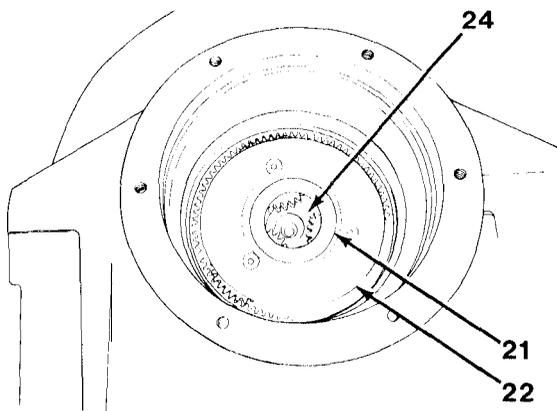
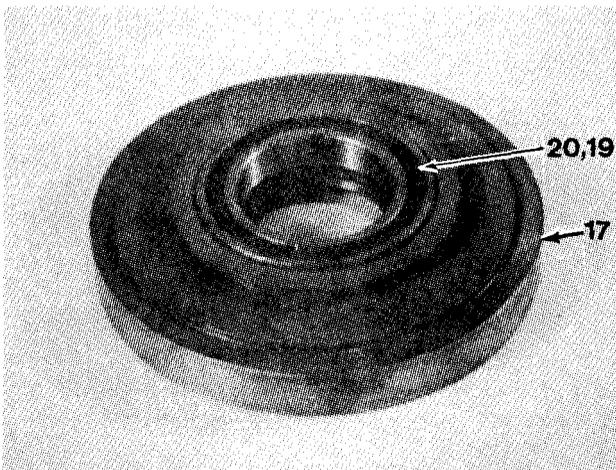

Figure 16-21
Figure 16-22
12. Install primary planet carrier (22), meshing planet gears with ring gear and planet carrier with output gear (34, Figure 16-21).
13. Install thrust ring (21) into primary planet carrier (22).
14. Install bearing (20) and seal (19) in drum closure (17, Figure 16-22). Install seal (19) with spring side of seal (19) away from bearing (20) by using a flat plate to avoid distortion.